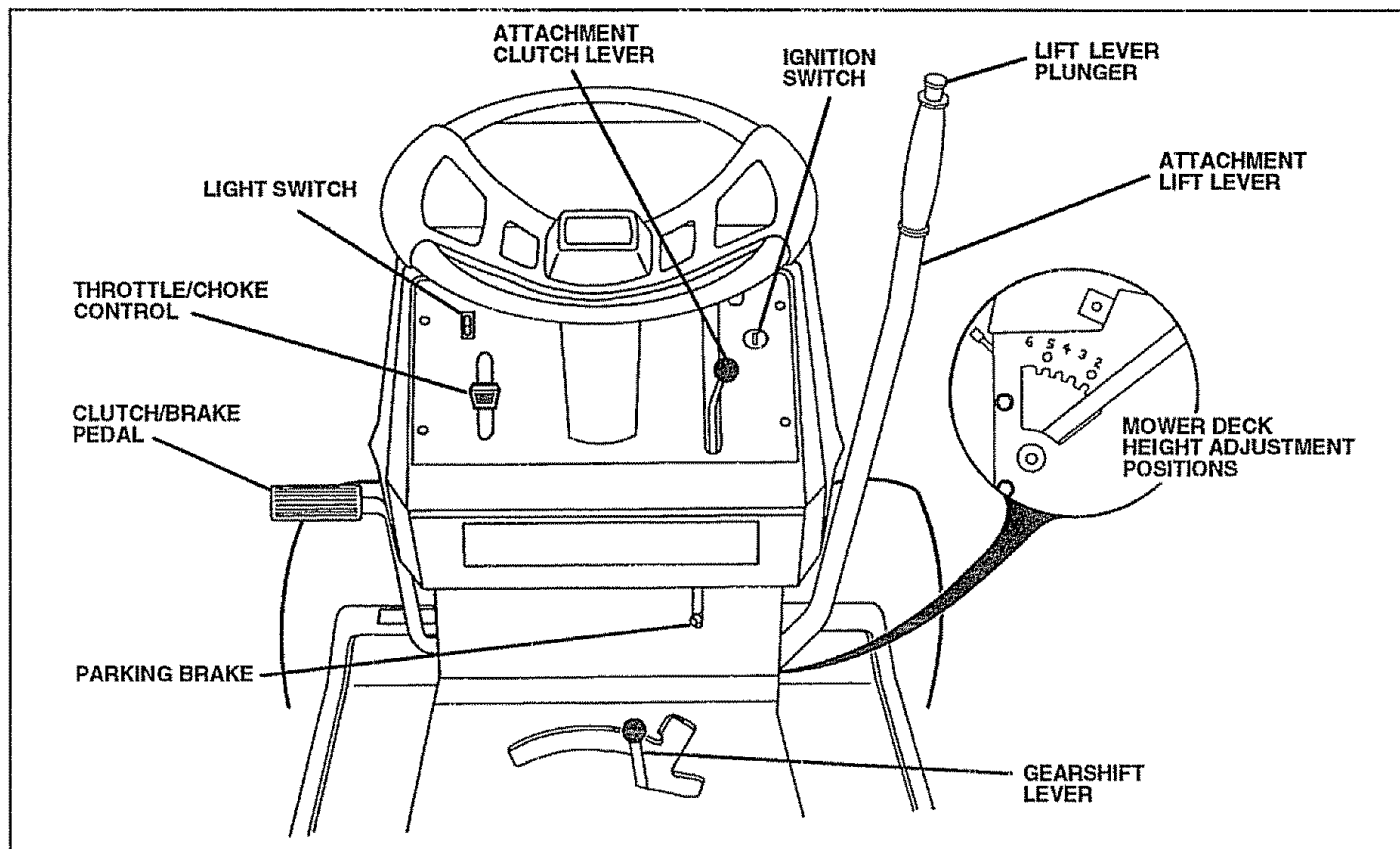

FIG. 6
### TO ROLL UNIT OFF SKID (See Fig. 6)
- Slide seat until a comfortable position is reached which allows you to press clutch/brake pedal all the way down (See Fig. 6).
### TO MOVE FORWARD AND BACKWARD (See Fig. 6)
### TO ADJUST MOWER CUTTING HEIGHT (See Fig. 6)